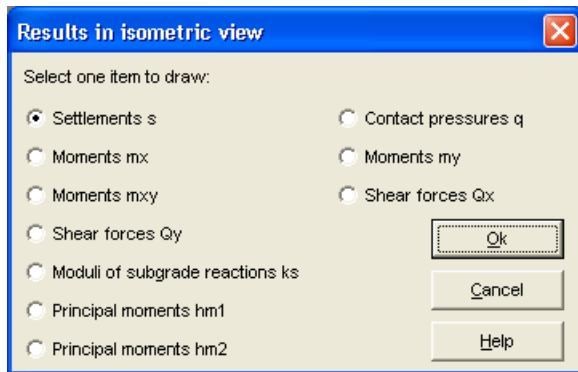

Figure 1-36 "Results in isometric view" option box
- Choose "Results in isometric view" command from "Graphic" menu. The following option box in Figure 1-36 appears